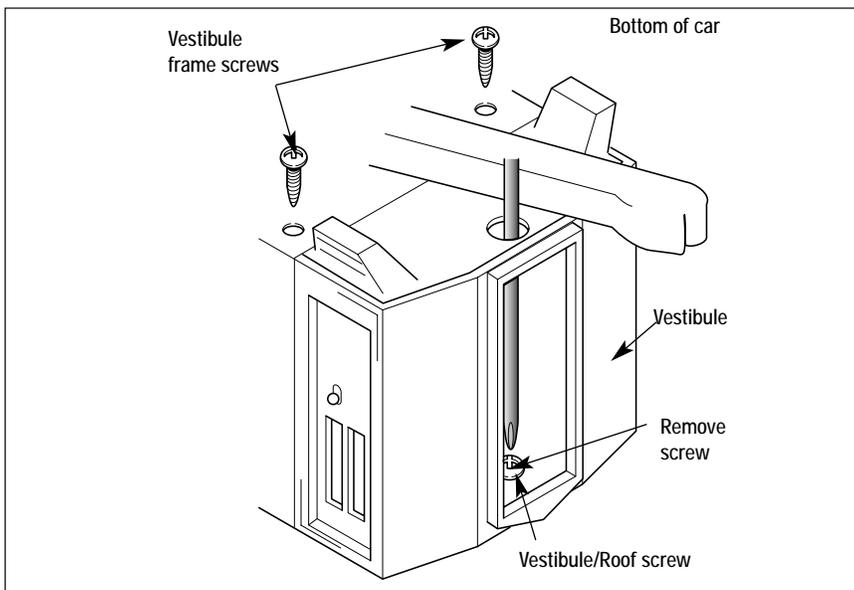

Figure 5. Vestibule removal
During the course of normal operation, you may find that your lamps require replacement. Follow these steps and refer to Figures 5 and 6 as you replace the expired lamps with Lionel part no. 630-9134-300.
1. Remove the vestibule roof screw at the end of the car with the vestibule side doors, inserting your screwdriver through the hole in the frame. See Figure 5. The screw is located at the top of the end cap.
2. Remove the two vestibule frame screws at both ends of the car. See Figure 5.